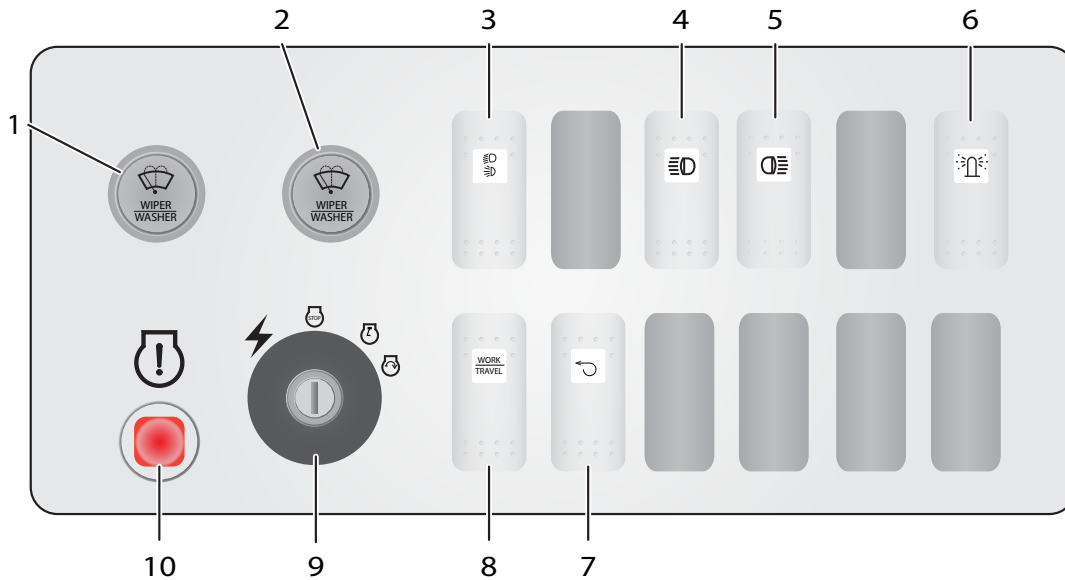

Figure 4-10. Side Control Panel
- Turn front wiper/washer fluid knob **(Figure 4-10,1)** clockwise to first position for low wiper speed.
- Push in front wiper/washer fluid knob **(Figure 4-10,1)**.
- Turn rear wiper/washer fluid knob **(Figure 4-10,2)** clockwise to first position for low wiper speed.
- Push in rear wiper /washer fluid knob **(Figure 4-10,2)**.
The headlights/parking lights switch **(Figure 4-10,3)** is used to control operation of the headlights and parking lights.
The beacon light switch **(Figure 4-10,6)** operates the flashing safety light on top of the canopy or optional cab. This light warns traffic of slow moving equipment.
The front work lights switch **(Figure 4-10,4)** operates the work lights mounted on the front of the motor grader. These lights are used to illuminate the work area when working at night.
The rear work light switch **(Figure 4-10,5)** operates the rear work lights mounted on the canopy or optional cab. These lights are used to illuminate the work area when working at night.